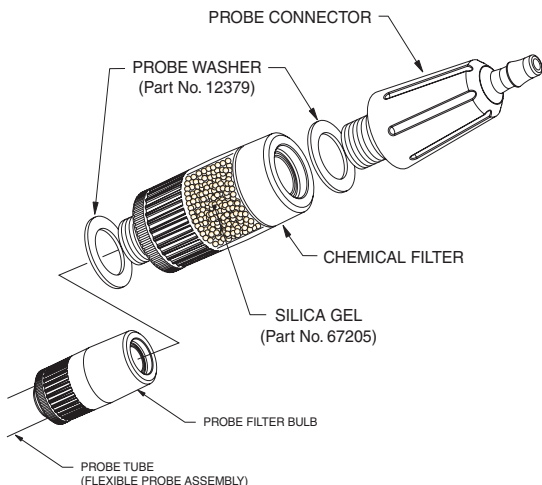

Fig. 12.4 Filter Removal
- 1) Unscrew the probe connector in a counter clockwise direction, then remove the connector from the filter assembly as shown in Fig. 12.4.
- 2) Unscrew the chemical filter assembly in a counter clockwise direction, then remove the filter from the filter bulb as shown in Fig. 12.4.
- 10) Attach chemical filter to filter bulb, in a clockwise direction, then tighten to secure. See Fig. 12.4.
- 12) Attach probe connector to the chemical filter, in a clockwise direction, then tighten to secure. See Fig. 12.4.